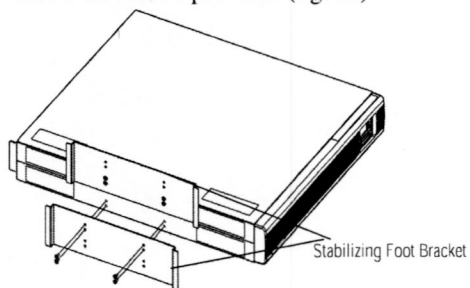

Fig. 12: Attaching Foot Brackets
2. Attach the two stabilizing foot brackets to the bottom (vent end) of the UPS using eight (8) of the #6-32 screws provided (fig. 12).